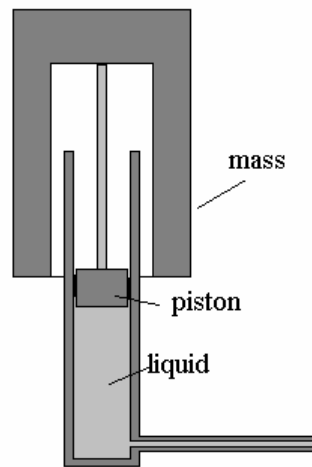

Fig.22
A simple accumulator is shown in fig.22. The piston is 200 mm diameter and the pressure of the liquid must be maintained at 30 MPa. Calculate the mass needed to produce this pressure.
4. A vertical hydraulic cylinder (fig.22) is used to support a weight of 50 kN. The piston is 100 mm diameter. Calculate the pressure required. (6.37 MPa)